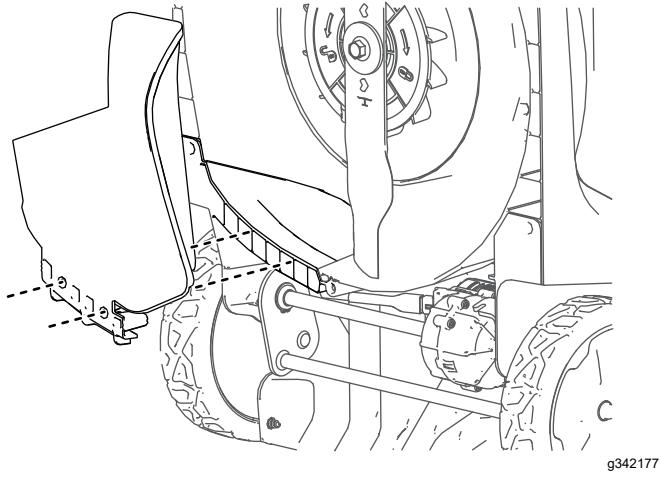

Figure 13
4. Align the mulch plug and push the bottom of the plug until it snaps into place onto the 2 retaining pins as shown in Figure 13.